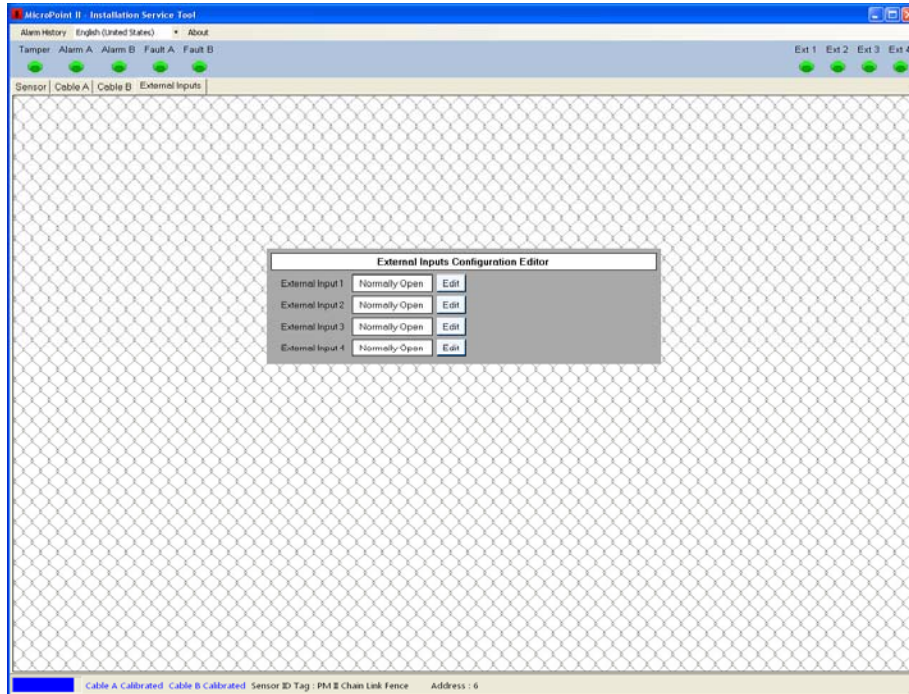
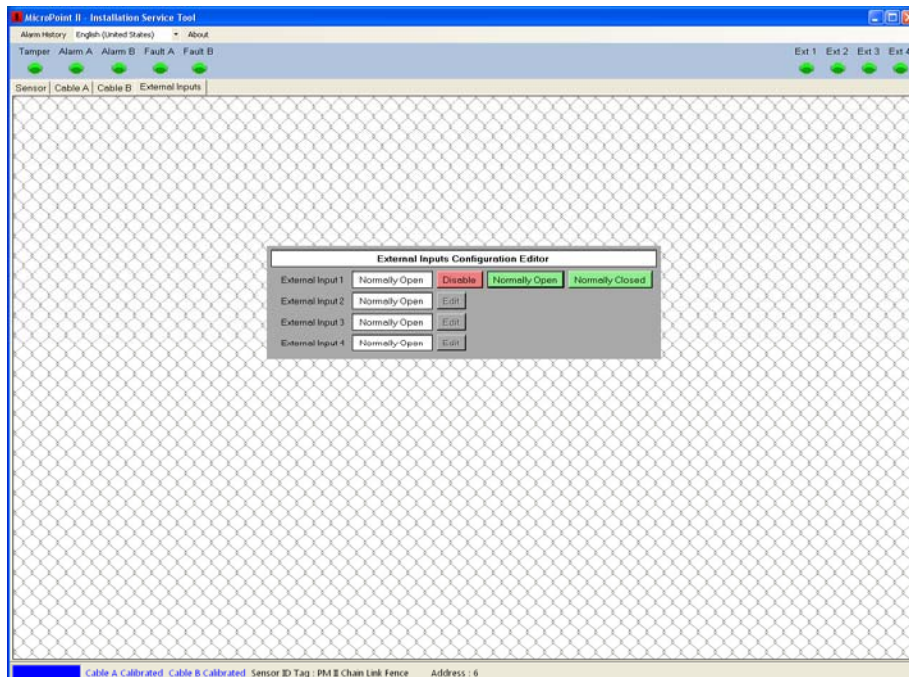

Figure 4.41 – External Inputs
Figure 4.42 – External Input Editor
Selecting the “External Inputs” tab will open the External Input Configuration Editor as shown in Figure 4.41. This tab is used for setting up external inputs that are connected to any of the four (4) inputs on the PM II processor. The inputs can be set to Normally Open, Normally Closed or Disabled. Selecting the “Edit” button next to the input will open the external input settings as shown in Figure 4.42.